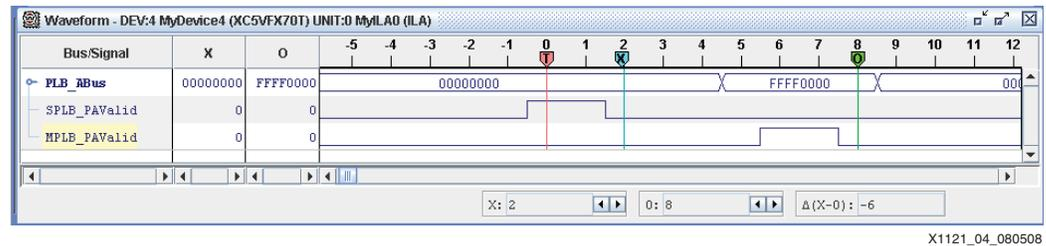

Figure 4: ChipScope MPLB Latency
- In the ChipScope project, select the Waveform for UNIT:0 MyILA0 (MPLB). The system will display the waveform shown in Figure 4.